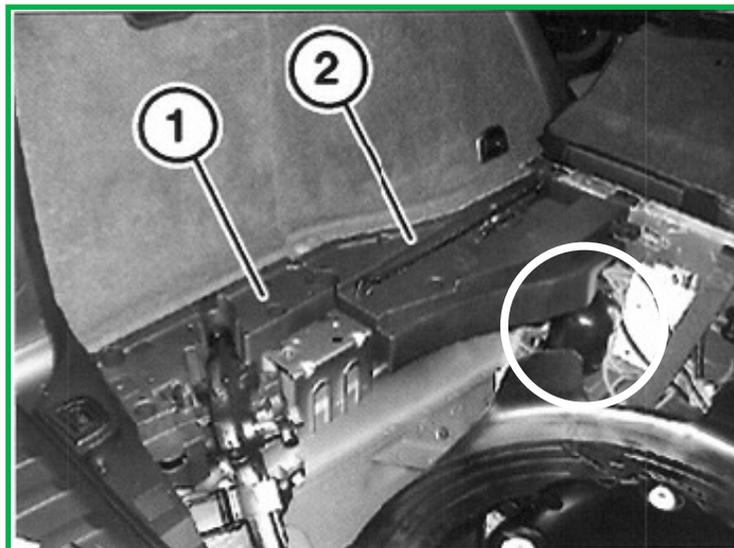

FIGURE 2
4. Remove support for side members (1) and (2) to gain access to the air reservoir. (Figure 2)